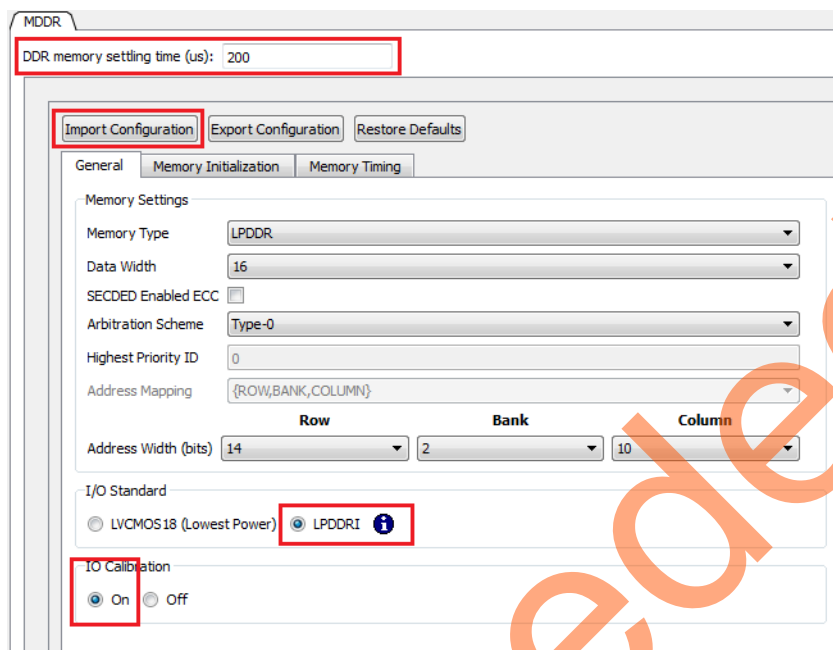

Figure 5 • System Builder - Memories
4. Click the **Memories** tab. The **System Builder-Memories** window is displayed as shown in Figure 5 on page 10.